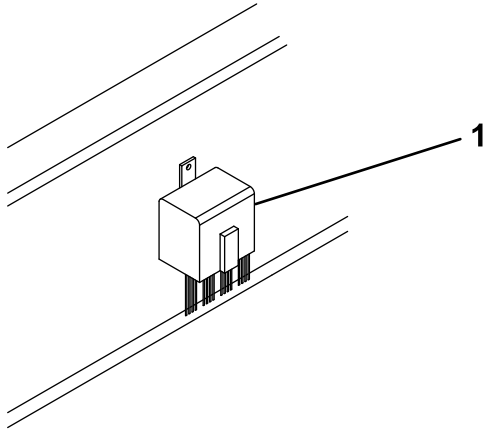

Figure 25
29. Mount the relay pack to the inside of the engine compartment using a sheet-metal screw (Figure 25).